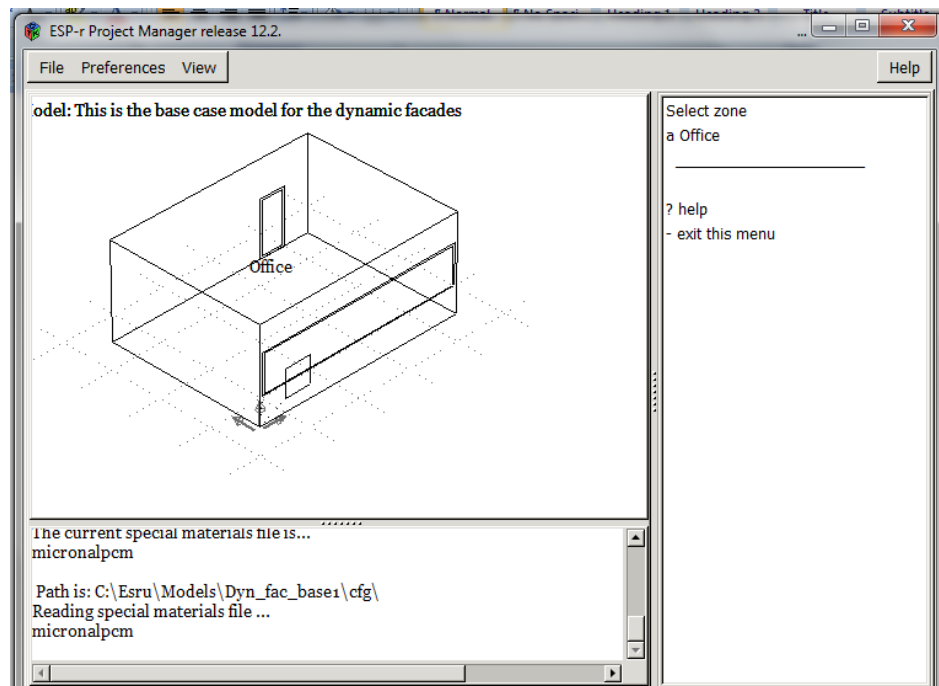

Figure 11
**Step 11:** ESP-r will then ask where you wish to put the phase change material which in our case was the office, therefore click >office. (figure 11)